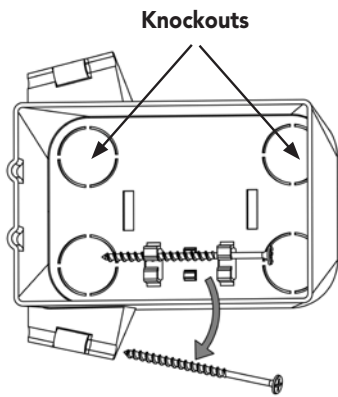

Figure 7
1. Remove the two screws from the interior clips of the junction box, and hand-screw them into the wings of the junction box (**Figure 7**).
2. Remove one of the four knockouts from the junction box (**Figure 7**). The resulting hole will allow routing of the 30-foot control cable or Duo cable into the junction box.